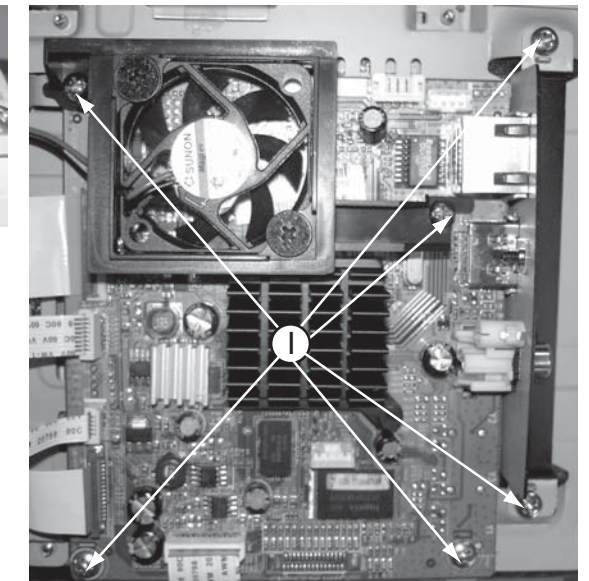

Figure 9
- 2) Loosen 6 screws "I" to remove BD board as shown in figure 9.